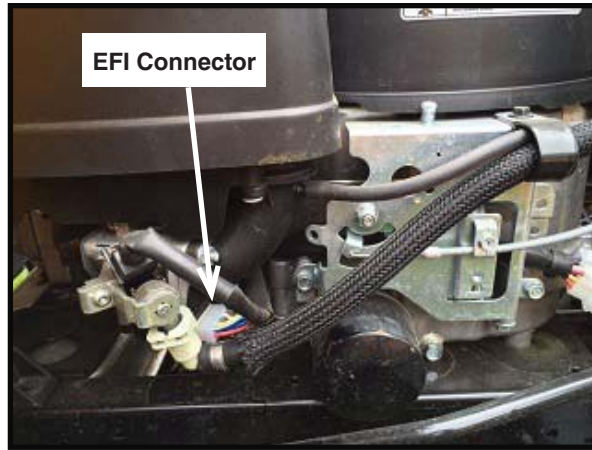

Figure 1
1. Inspect the EFI connector at the ECU, Figure 1, by gently tugging on the connector. If the connector remains attached to the ECU, no further action is required.